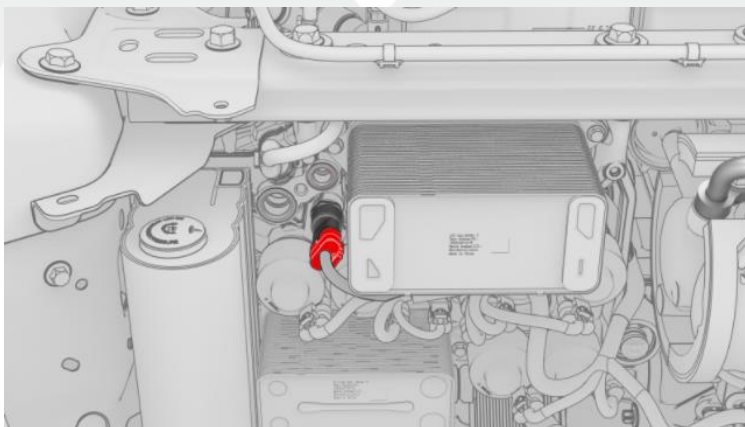

Figure 4
7. Release the locking tab, and then disconnect the electrical harness from the high pressure P/T sensor connector (Figure 4).
19. Connect the electrical harness to the high pressure P/T sensor connector, and then fasten the locking tab (Figure 4).